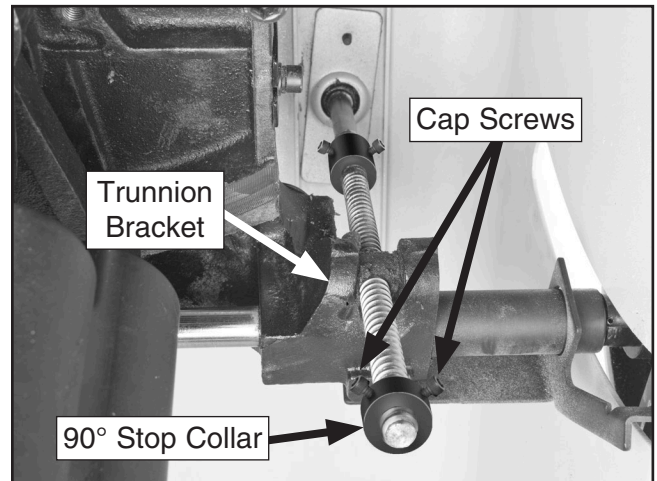

Figure 100. 90° stop bolt and jam nut.
5. Open the motor access cover, loosen the cap screws shown in **Figure 100**, then thread the 90° stop collar one turn away from the trunnion bracket. This will allow you to square the blade in the next step.